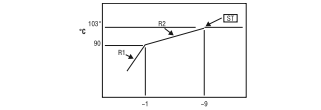

Figure 1. UniBlate Default Algorithm
- RF set temperature defaults to 102°C. Modifying the set temperature will offset the endpoint of the first ramp shown in Figure 1 by the number of degrees different from the default setting, e.g. a 100°C set point will stop the end point of the first ramp from 90°C to 87°C.